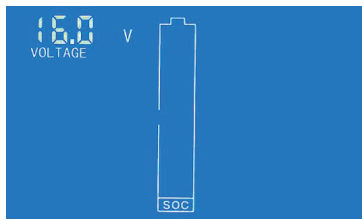

Figure 5: cut off voltage setting interface (low bit)
- Step 1: After you set the full voltage, long press the button until LCD shows the interface of Fig. 5, then release the button